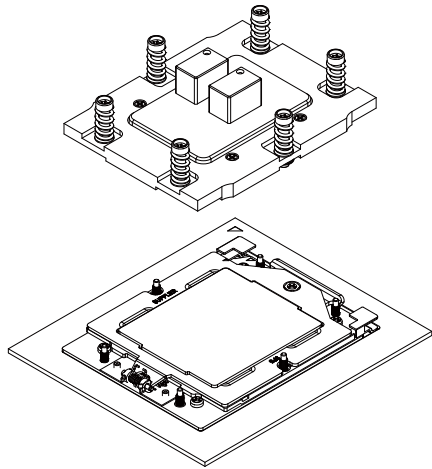

Figure 1
2. Place the heat sink directly on top of the CPU (Figure 1) so that the six heat sink mounting screws are aligned with and seated on the six heat sink mounting studs or nut standoffs on the socket stiffener frame.